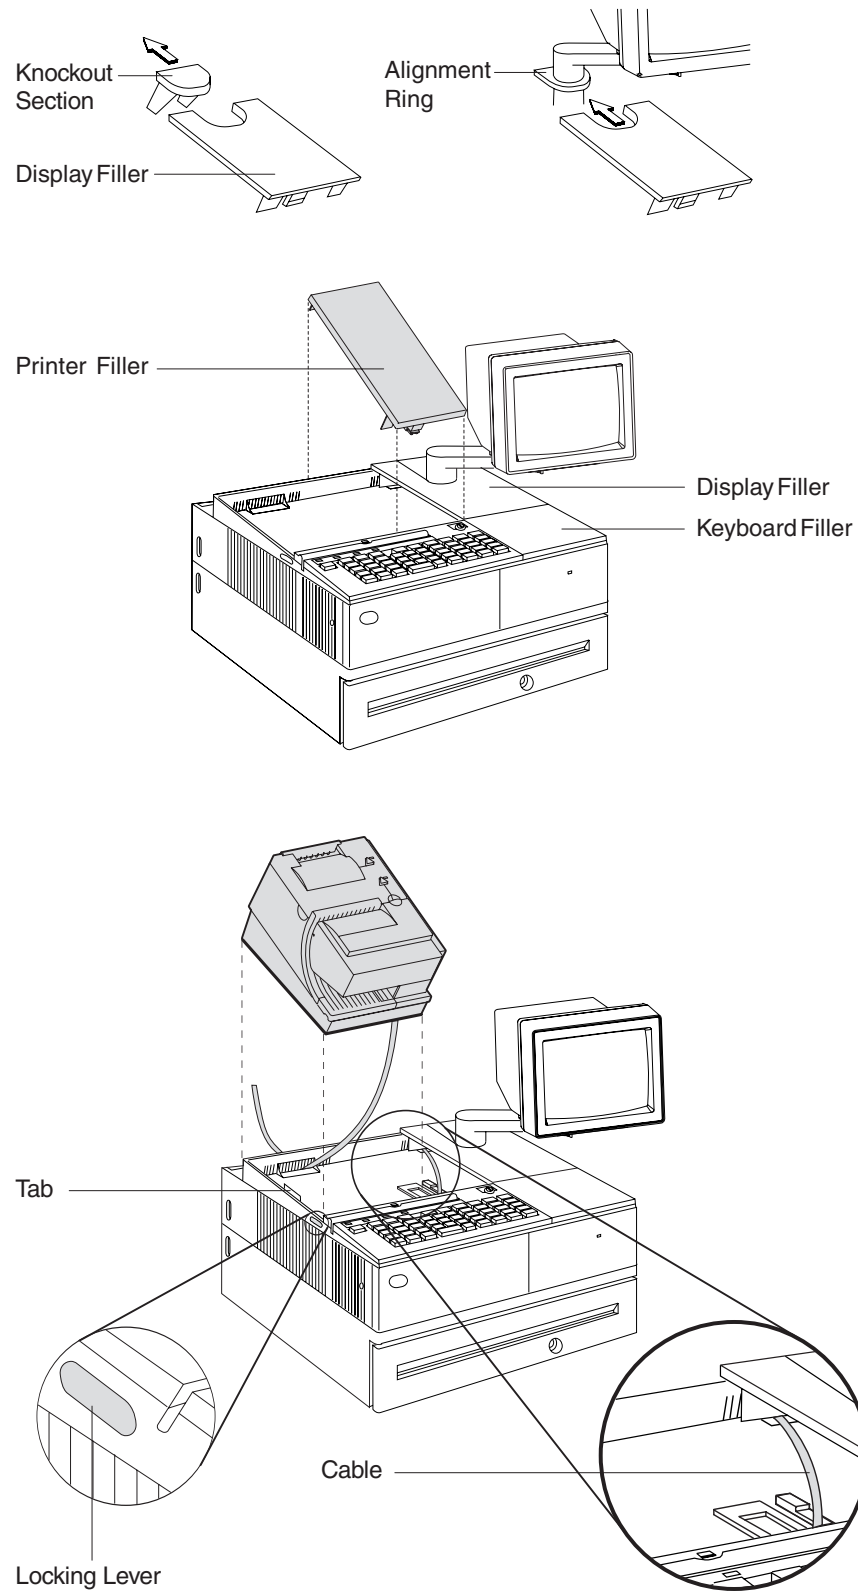

Figure 14. Installing the fillers for USB systems
2. Place the display filler appropriate for the video display on the system unit. See Figure 14 on page 27.
3. If you have a short keyboard, place the keyboard filler beside the keyboard. See Figure 14 on page 27.
4. Place the printer filler beside the display filler. **Make sure you route the keyboard cable to the side, as shown in Figure 14 on page 27.**